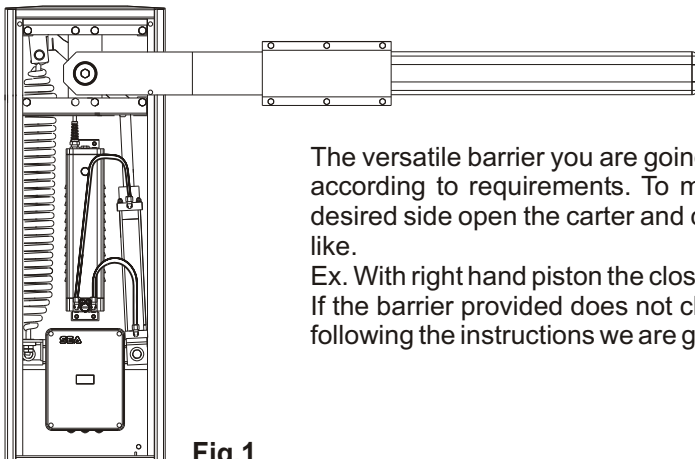

Fig.1
Ex. With right hand piston the closing is on the right (Fig 1 and 2).
N.B.: The production operator is delivered as shown in Fig.1 (Closing on the right hand side).
Necessity of right closing (fig1)